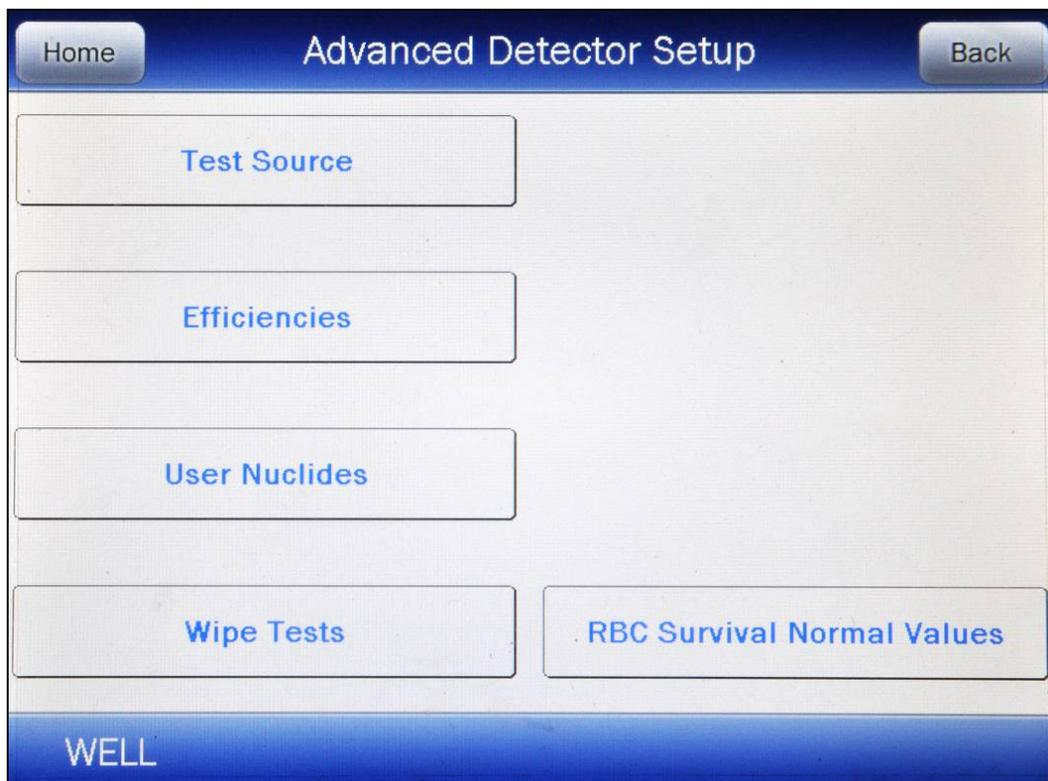

Figure 5-5 Advanced Detector Setup Screen
Input the password (the last 3 digits of the Readout serial number) by touching the appropriate numbers on the keypad. Touch the **ACCEPT** button to accept the password. Figure 5-5 Advanced Detector Setup Screen will appear.
To exit Figure 5-5 Advanced Detector Setup Screen,
From Figure 5-5 Advanced Detector Setup Screen, touch the **TEST SOURCE** button. Figure 5-6 Test Source Setup Screen will appear. If a Test Source has been previously input, the data for the source will be displayed.
- touch the **BACK** button – Figure 5-5 Advanced Detector Setup Screen will appear or
From Figure 5-5 Advanced Detector Setup Screen, touch the **EFFICIENCIES** button. Figure 5-11 Efficiencies Setup Screen will appear.